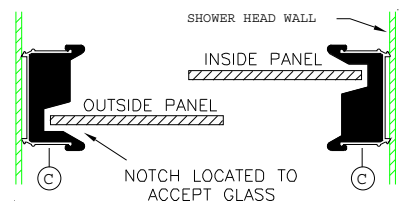

figure 6
11. Attach Panel Bumpers (F) to Wall Jamb using a 834Q Installation Screw (G). Please note that notches on bumpers are positioned so as to accept glass insertion, see figure 6.